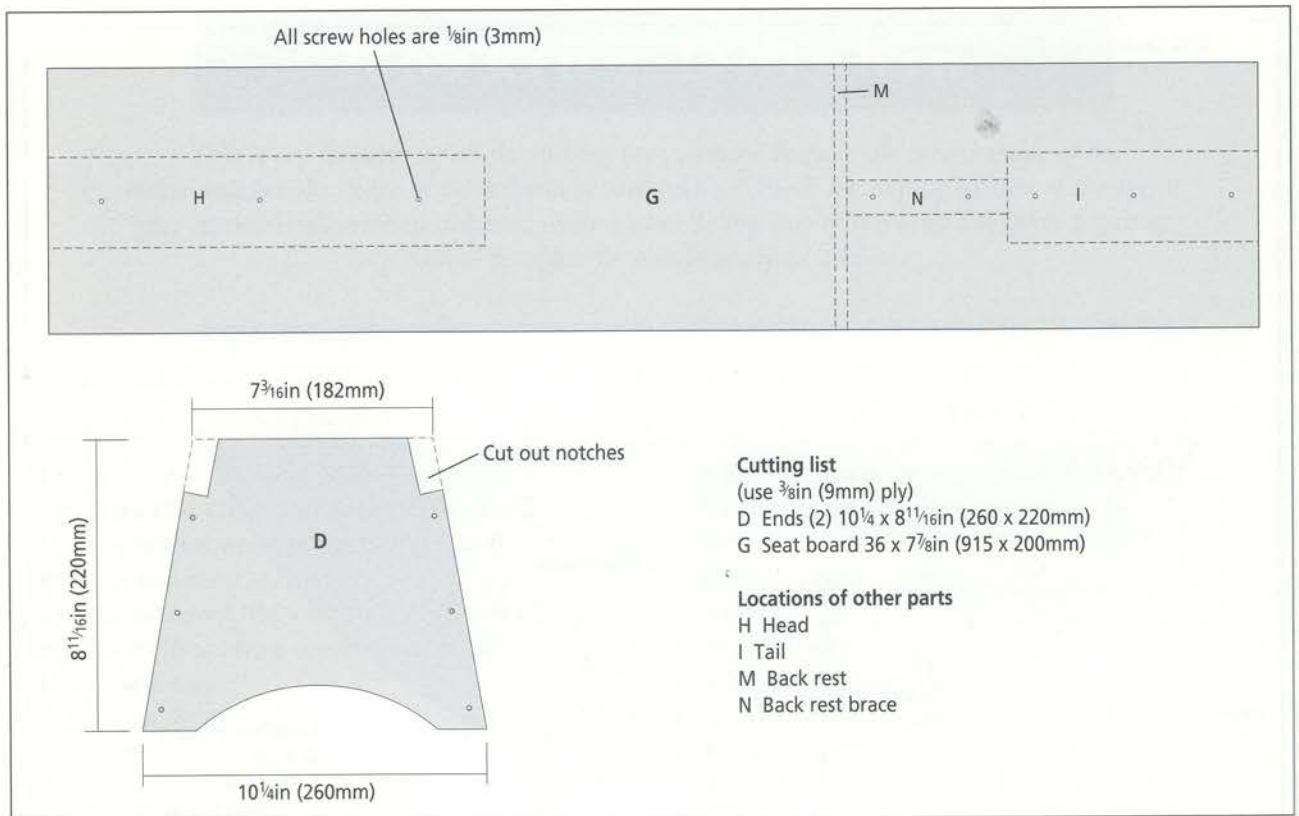
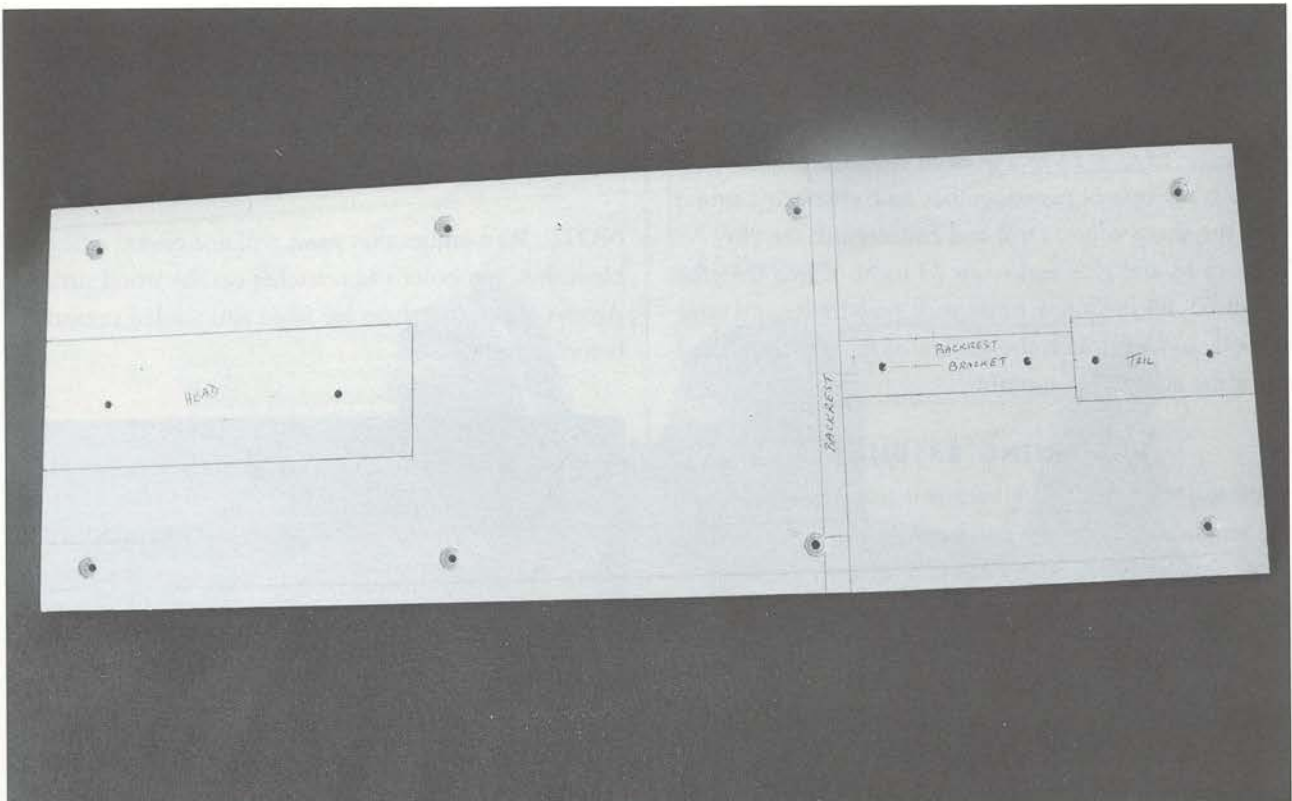
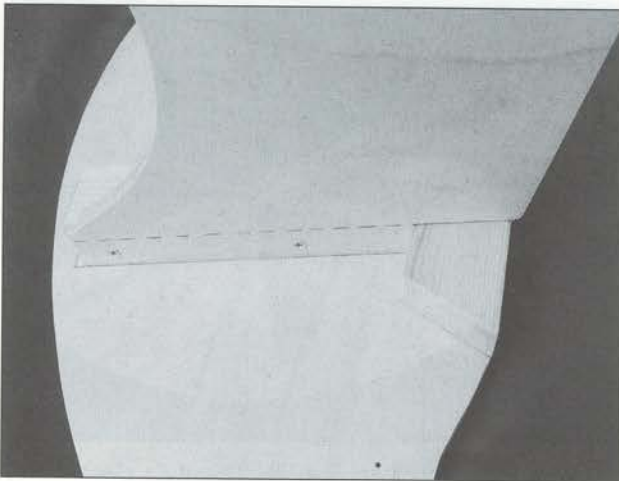

Fig 18.2 The dimensions for parts D and G. The plan for G shows the position of the head, backrest and tail assemblies.
Fig 18.8 Part G showing the positions of the head, backrest and tail assemblies. Note the countersunk screw holes for attaching G to the two A parts.
Fig 18.9 The notch in D fits around B. Screws attach D to C.
Cut G to size (see Fig 18.2) and mark the positions for the head (H), tail (I) and back rest (N) assembly as shown in Figs 18.2 and 18.8. Drill the screw holes in G and countersink them from the underside. Shape the edges of G to a quarter-round section. Fig 18.8 shows G
Saw the two D parts to shape (see Fig 18.2). You will note that these parts have notches cut out of the upper corners. The notches enable D to fit around the B parts that are attached to the top edge of A. Fig 18.9 shows D screwed into place.